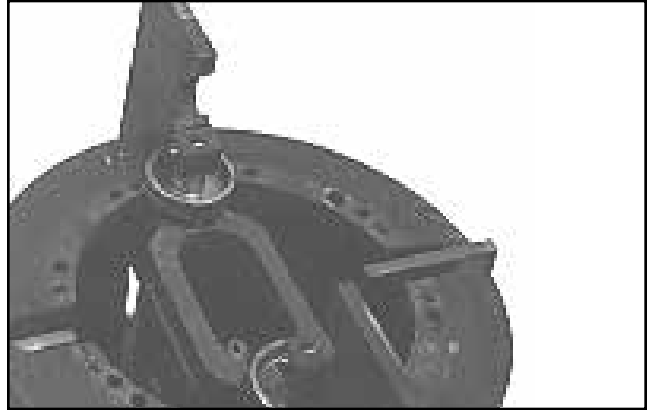

Figure 14
- Figure 14 shows one method of marking blades and rotor. Using a marker, make identical number of marks on the blade yoke and on an area of the rotor next to the blade slot. It is unnecessary to mark the opposite blade paddle for obvious reasons.